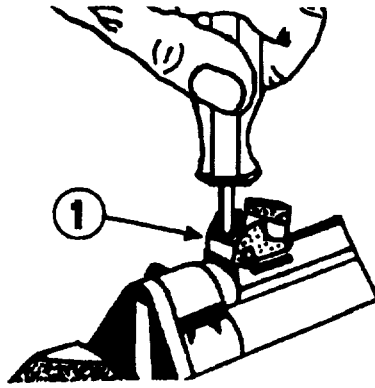
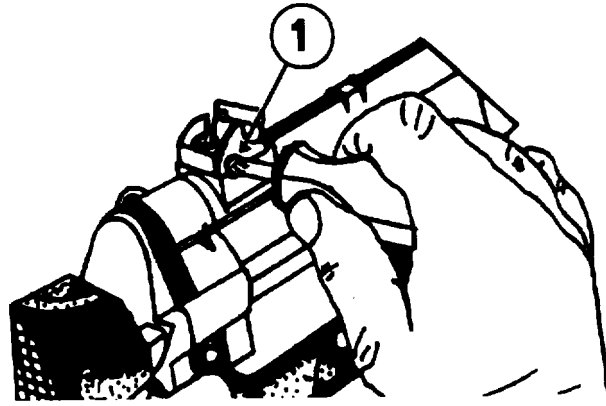

Figure 2-9. Loosening The Clamping Screw
Figure 2-10. Rotating The Adjusting Screw
(1) Correction for left-hand deviation: Loosen clamping screw (1), Figure 2-9. Turn adjusting screw (1), Figure 2-10, counter-clockwise, in accordance with the required correction. Then re-tighten clamping screw.
(2) Correction for right-hand deviation: Loosen clamping screw (1), Figure 2-9. Turn adjusting screw (1), Figure 2-10, clockwise until the required correction is obtained. Then re-tighten clamping screw.